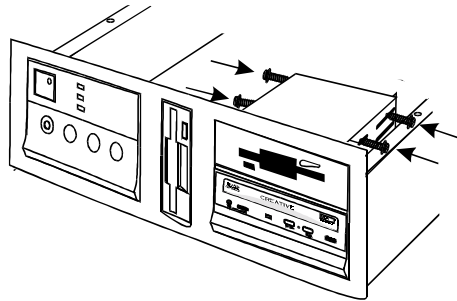

Figure 2-19: Fastening the drives to your system.
4. Slide the drives back into place and fasten them to your system as shown in Figure 2-19.